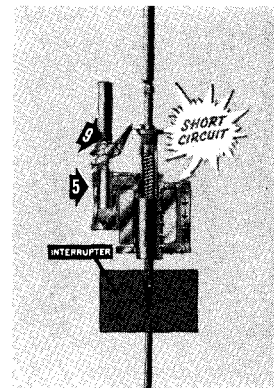

Figure 4
**Figure 4**—Contacts snap to full open position by force of operating spring and accelerated by gas pressure in the interrupter. Arc is quickly extinguished in high pressure interrupter chamber. Integrator 9 is advanced one step, closing oil port 5. Interruption of short circuit current allows contact to close with time delay because of the dash-pot acting on the armature.